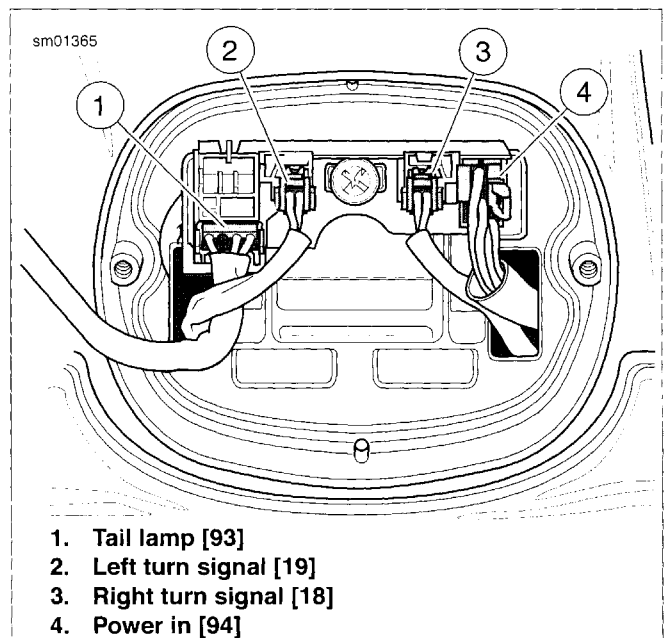

Figure 6-54. Tail Lamp Base Connectors (Typical, XL Models Shown)
9. See Figure 6-54. Install connectors to circuit board.